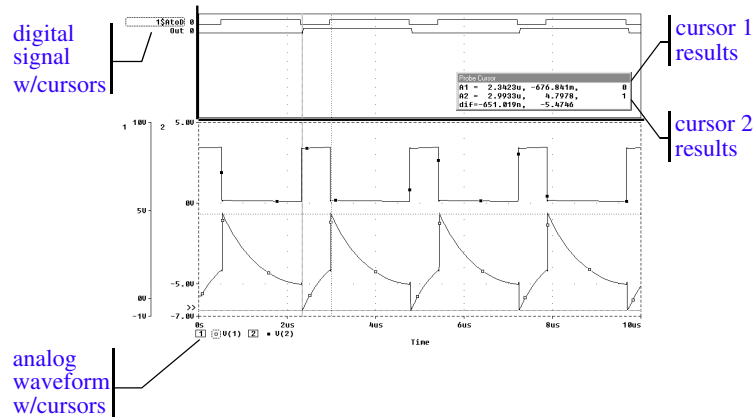

Figure 17-11 Cursors positioned on a trough and peak of V(1)
Figure 17-11 shows both cursors positioned on the Out signal in the digital area of a plot, and both cursors on the V(1) waveform in the analog area of the plot.